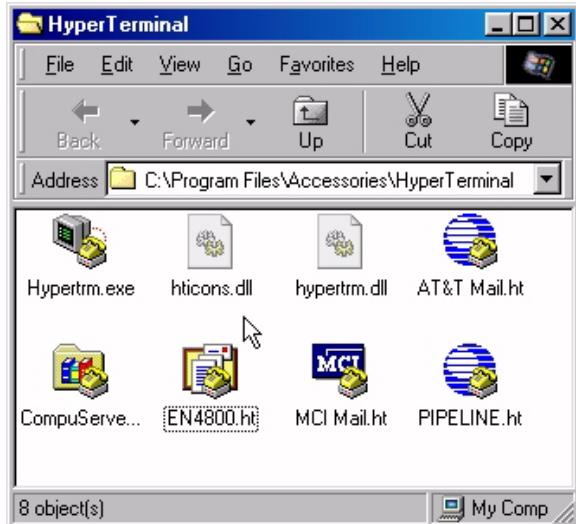

Figure 3-1. Launching Hyper Terminal program
1. Start Hyper Terminal Program – With Windows, select: Start / Programs / Accessories / Communication / Hyper Terminal / Hypertrm.exe. Create a new connection and choose a name, for example EN4800. These steps are shown in Figures 3-1 and 3-2.